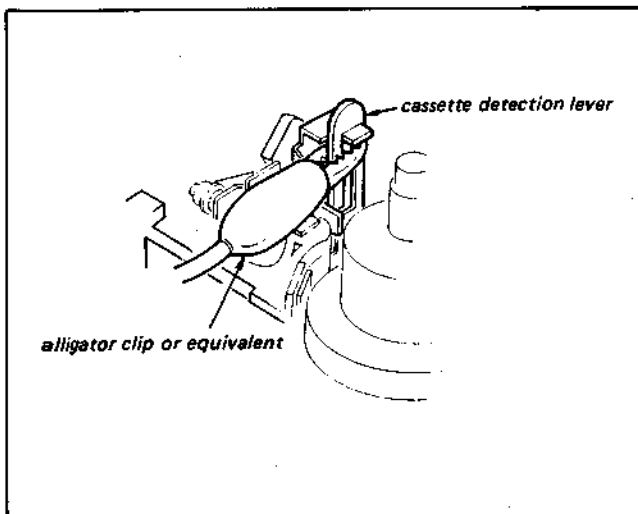

Fig. 1-9.
1. Insert a toothpick, or something like a matchstick whose point is sharpened, into the hole on the CN-6 board as shown in Fig. 1-9 to stop the movement of the slack sensor arm. A plastic pick would be preferred to the wooden one.